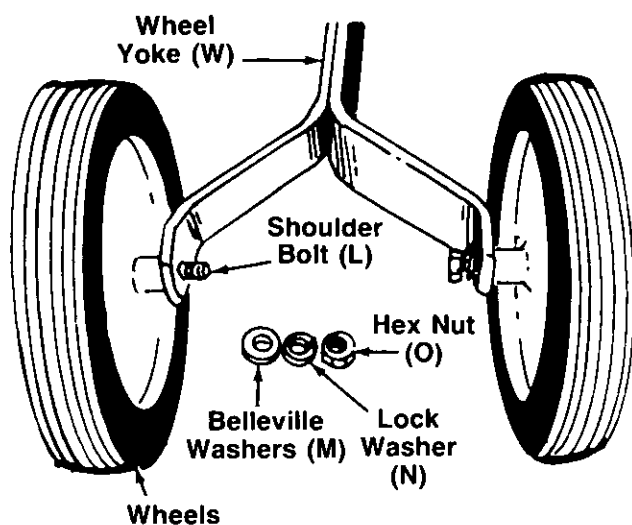

FIGURE 5.
- Assemble wheels (AC) to wheel yoke (W) with shoulder bolts (L), belleville washers (M) (cupped side of washer is against the wheel yoke), lock washers (N) and hex nuts (O) as shown in figure 5. A 3/4" wrench and an adjustable wrench is required.